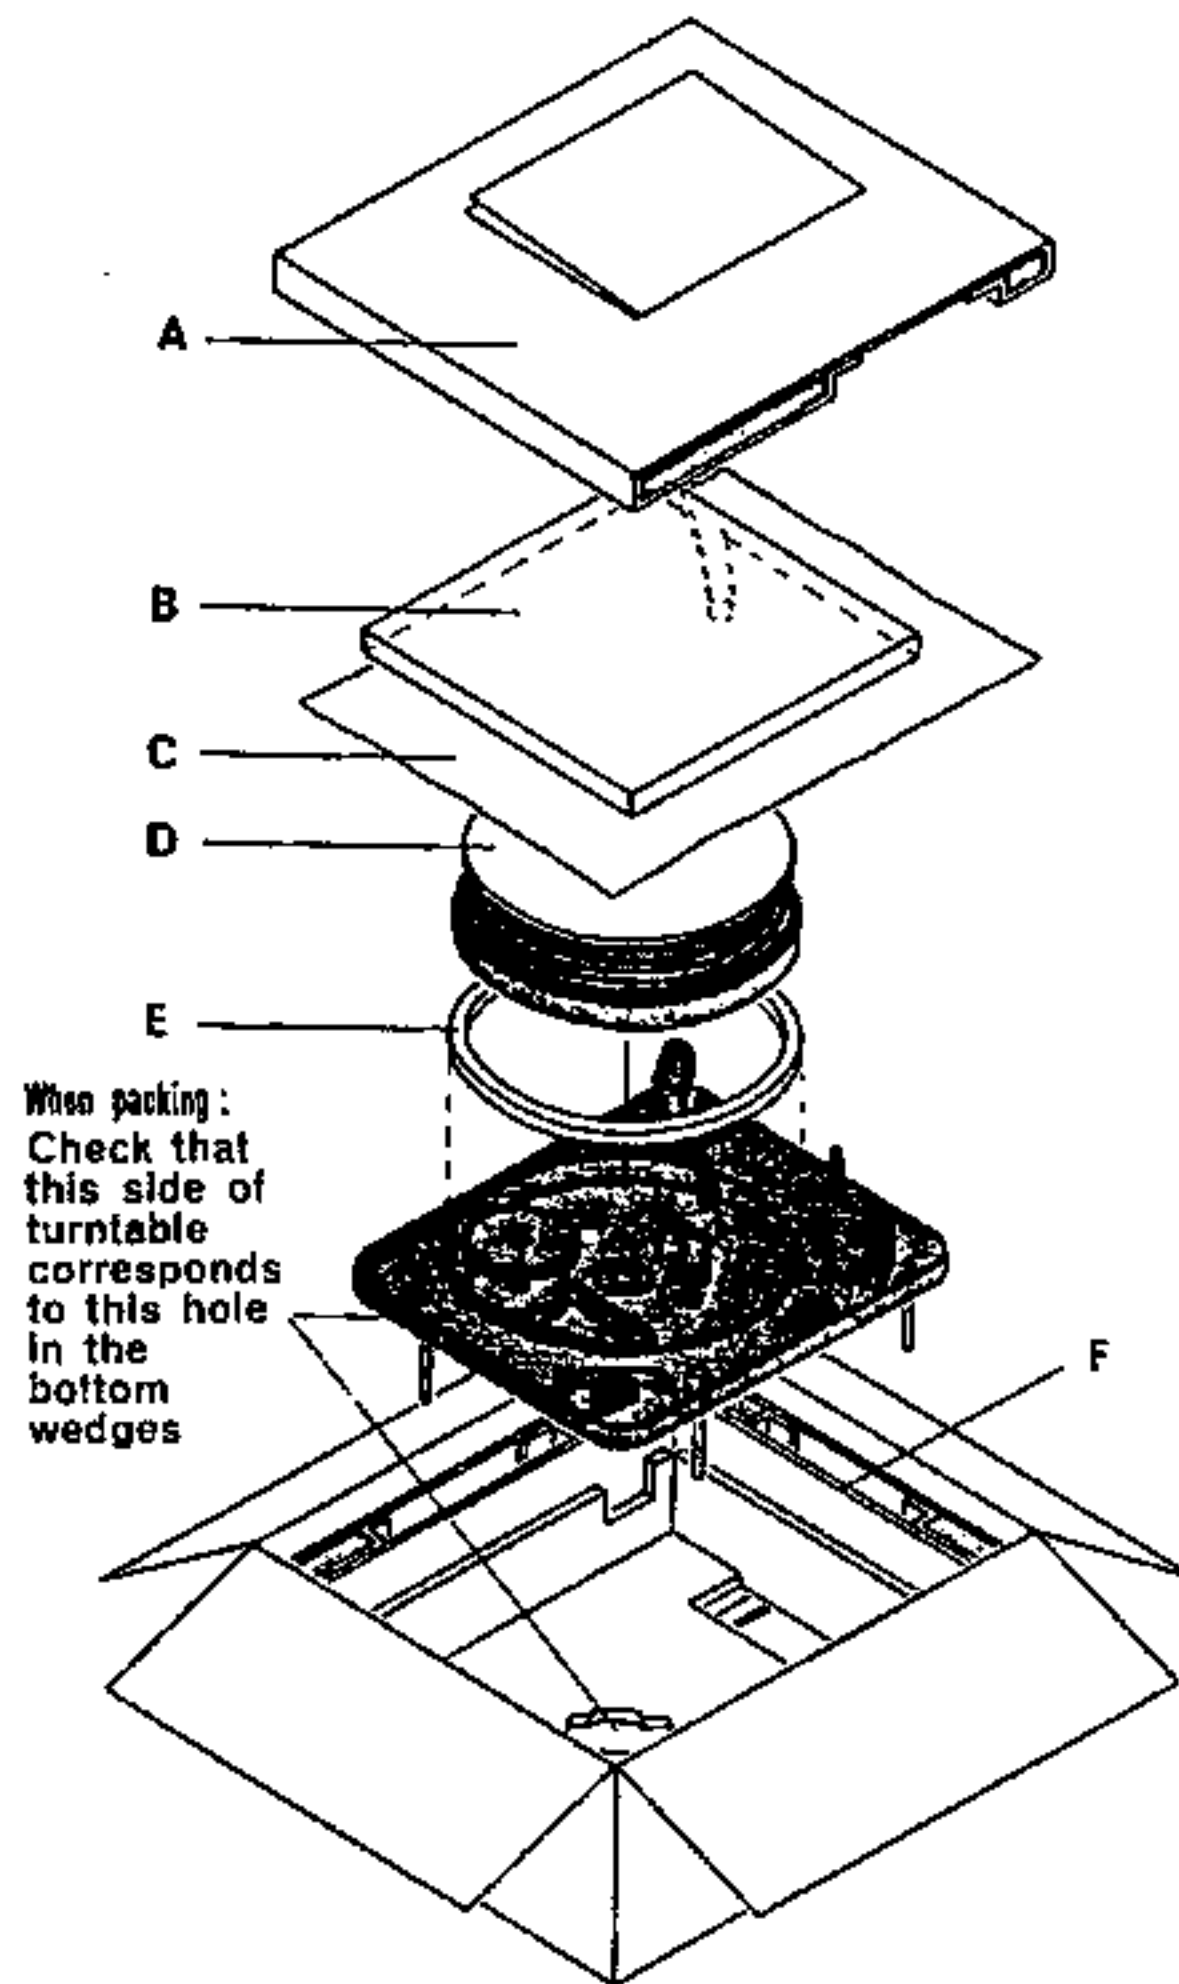

Fig. 2
3. Remove sleeve A, pick-up arm holding sleeve B, paper C and external sleeve F (see fig. 2).